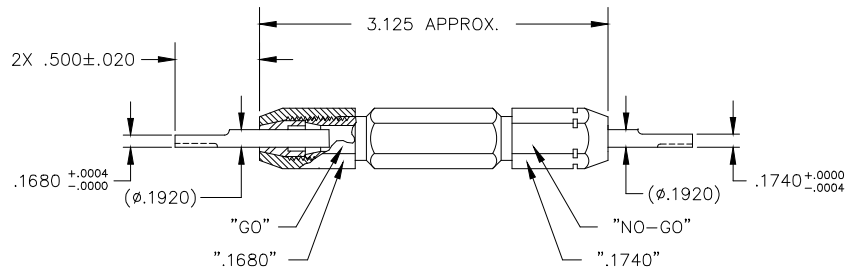

FIGURE 1
- IF THE GAGE MEMBER IS WITHIN THE LIMITS SHOWN IN FIGURE 1, IT IS SERVICEABLE AND MAY BE RE-INSTALLED IN THE GAGE.